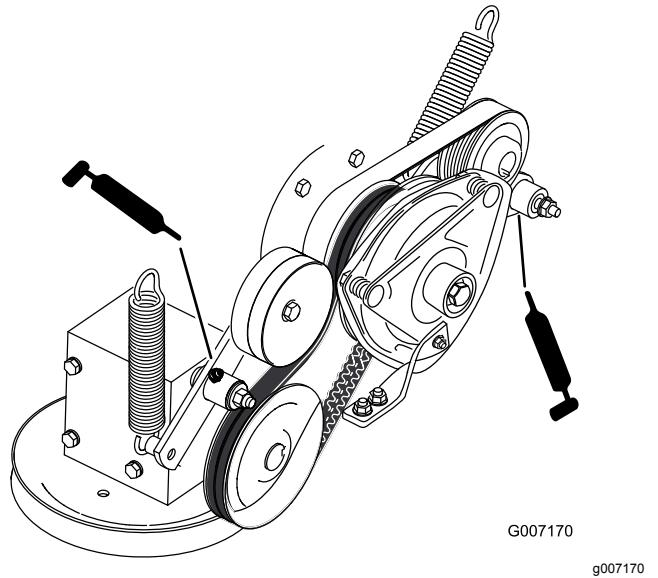

Figure 41
6. Grease the PTO-drive belt idler arm (Figure 41).
7. Grease the pump belt idler arm (Figure 41).